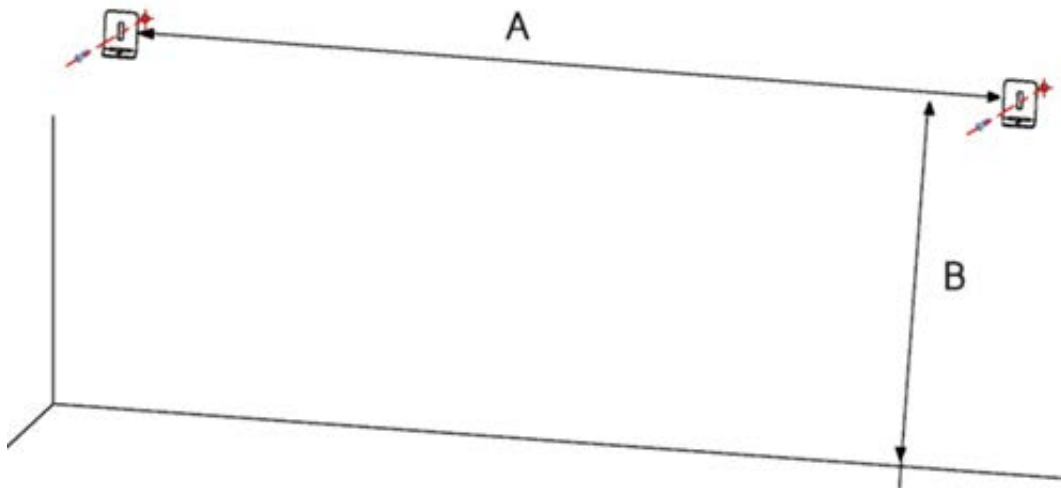

Figure 3 | Positions of drilling holes measurements
- a. Use a tape measure and pencil to make two marks on the wall as per **Figure 3** and **Table 4**. The template provided will help you measure the width.